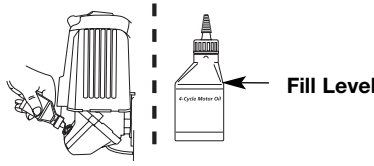

Fig. 24
**NOTE:** Use the bottle and spout saved from initial use to measure the correct amount of oil. The top of the label on the bottle measures approximately 3.04 ounces (90 ml) (Fig. 24). Check the level with the dipstick. If the level is low, add a small amount of oil and recheck. Do not overfill (Fig. 24).